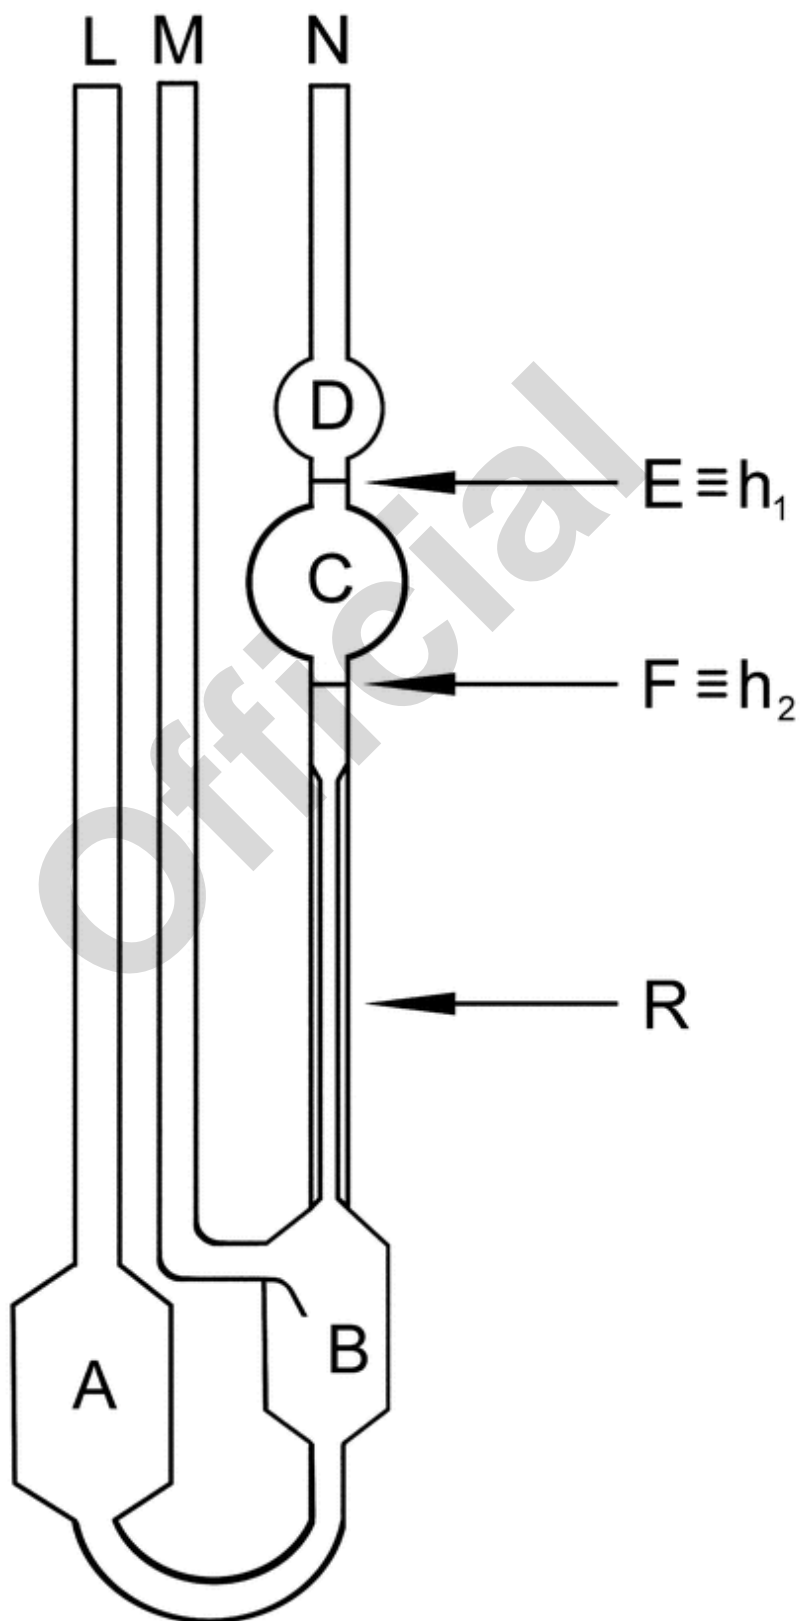

Figure 1. Suspended-level (or Ubbelohde-type) capillary viscometer.
**Apparatus:** The determination may be carried out with a suspended-level capillary viscometer (*Figure 1*).